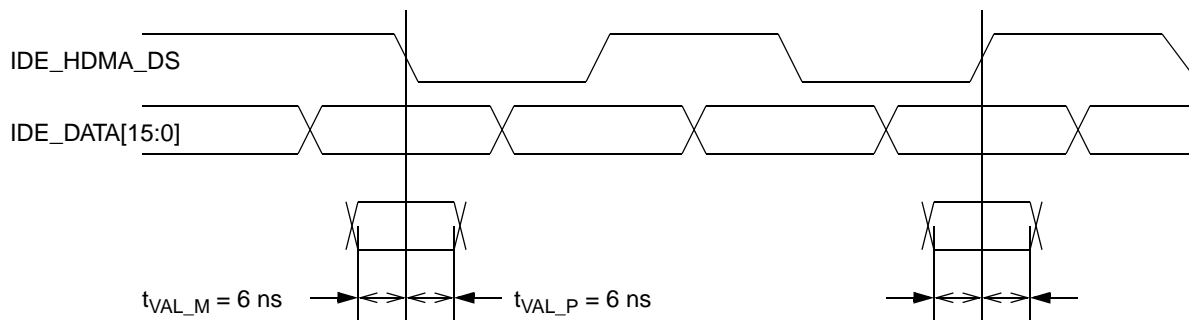

Figure 7-6. IDE UltraDMA Data Out Timing
- Note 3. This signal uses *Output Reference Timing* (see Figure 7-3 on page 551). Figure 7-6 illustrates IDE_HDMA_DS and IDE_DATA[15:0] relationship.